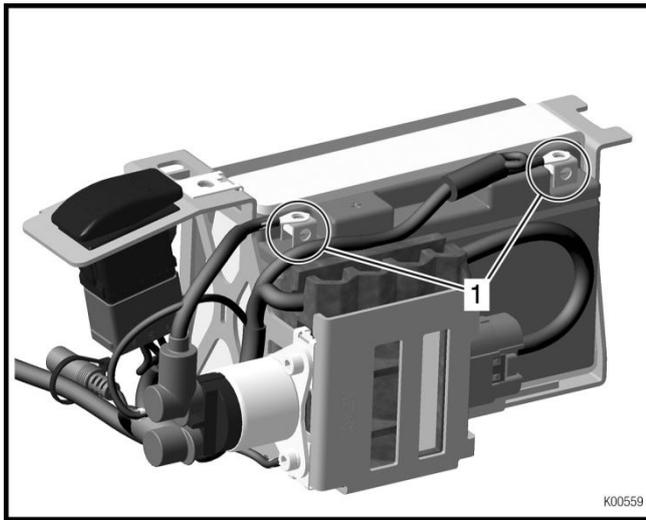

Fig. 29
- ◆ **Note:** The battery terminals (pos. 1) must point in the direction of the control unit. See Fig. 29